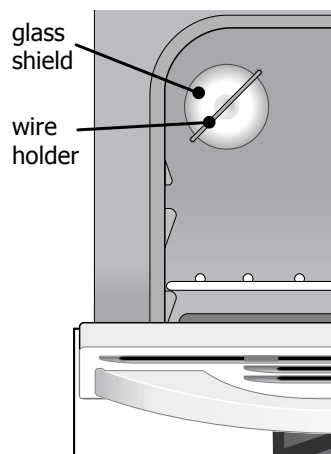

Fig. 2
2. Press wire holder to one side to release the glass shield that covers the light bulb (See Fig.2)